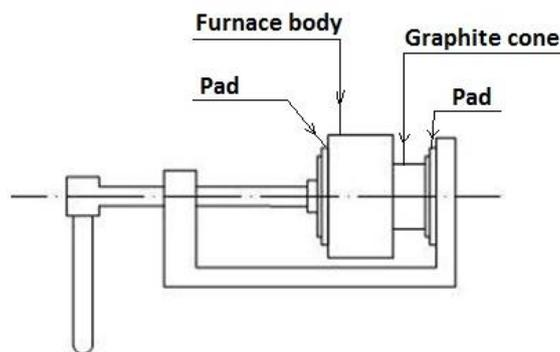

Fig. 10-3
- 3) Reinstall the left half of the graphite cone: Put the left half of the graphite cone rightly back into the left half of the furnace body, and push with hand. Then, respectively place a pad at both the ends (as shown in Fig. 10-3). Place the withdraw tool of graphite cone, screw the screw arbor to push the pad until the graphite cone is slowly into the furnace body and close to the internal end. Then, fix up the outer ring and the installation of the left half of the graphite cone is completed.